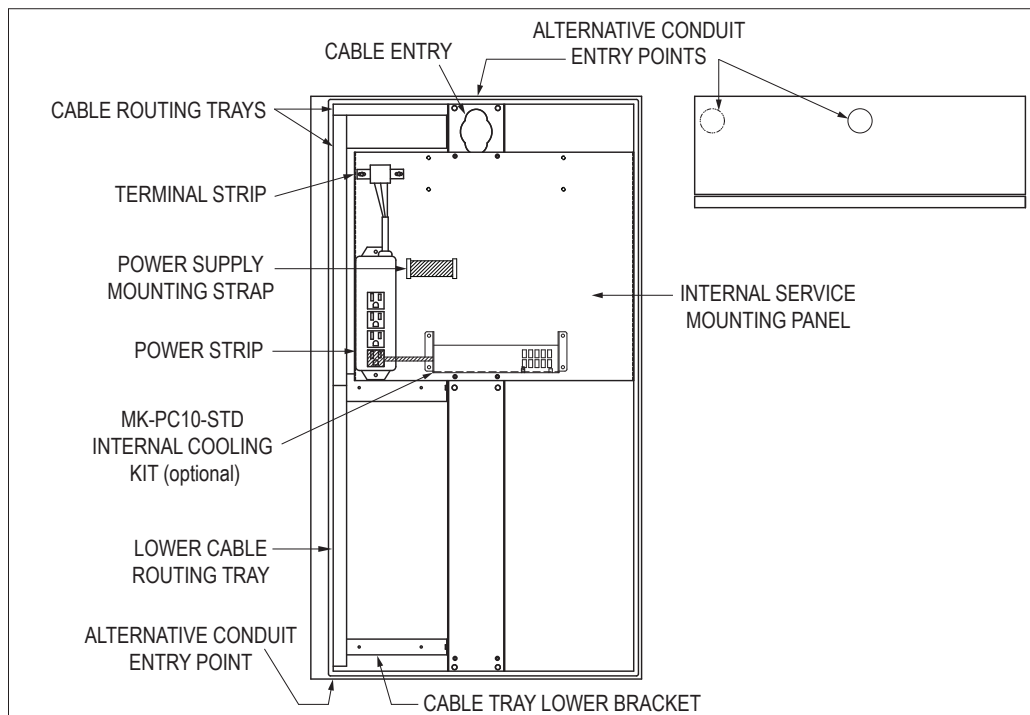

FIGURE 1 – INSIDE AND TOP VIEWS OF ENCLOSURE
1. Refer to Figure 1. A wiring entry hole is provided at the top center of the enclosure for use when pedestal or wall mounting the enclosure. If cables will not be going through the rear hole already provided, punch conduit holes as required.
NOTE: If punching conduit holes in the enclosure, place the hole(s) so that wires can be routed through the trays provided. See Figure 1 for alternative conduit entry points on the enclosure top, bottom, and rear walls. If necessary, remove cable routing covers and trays before drilling to avoid damage and to allow room for conduit installation. In wet environments, ensure that conduit entry points are adequately sealed.
- b. When using the optional Dell Optiplex XE2 mounting kit (part number MK-PC10-DELLXE2): Refer to Figures 1 and 4.
5. Refer to Figure 1. Install any additional equipment on the internal service panel. The panel can be removed for drilling as required.
NOTE: If you ordered the optional MK-PC10-STD internal cooling kit, install it on the service panel now, as shown in Figure 1. This cooling kit may be low-mounted, as shown in Figure 1, or high-mounted on the top mounting pattern on the service panel. Hook up power to the internal cooling kit by plugging the kit's AC cable into an outlet on the power strip. For non-North American power strips, connect power using the alternative cable that shipped with your internal cooling kit. Connect the cable to the kit, then connect the pigtail end to the AC input terminal blocks.
6. Refer to Figure 1. Remove cable routing tray covers and route the power cable to the power strip terminal block on the internal service panel. Route all signal cables (video, keyboard/mouse, serial, network, etc.) and AC power cables as required. For good internal air flow, all cables should be routed neatly through the trays.